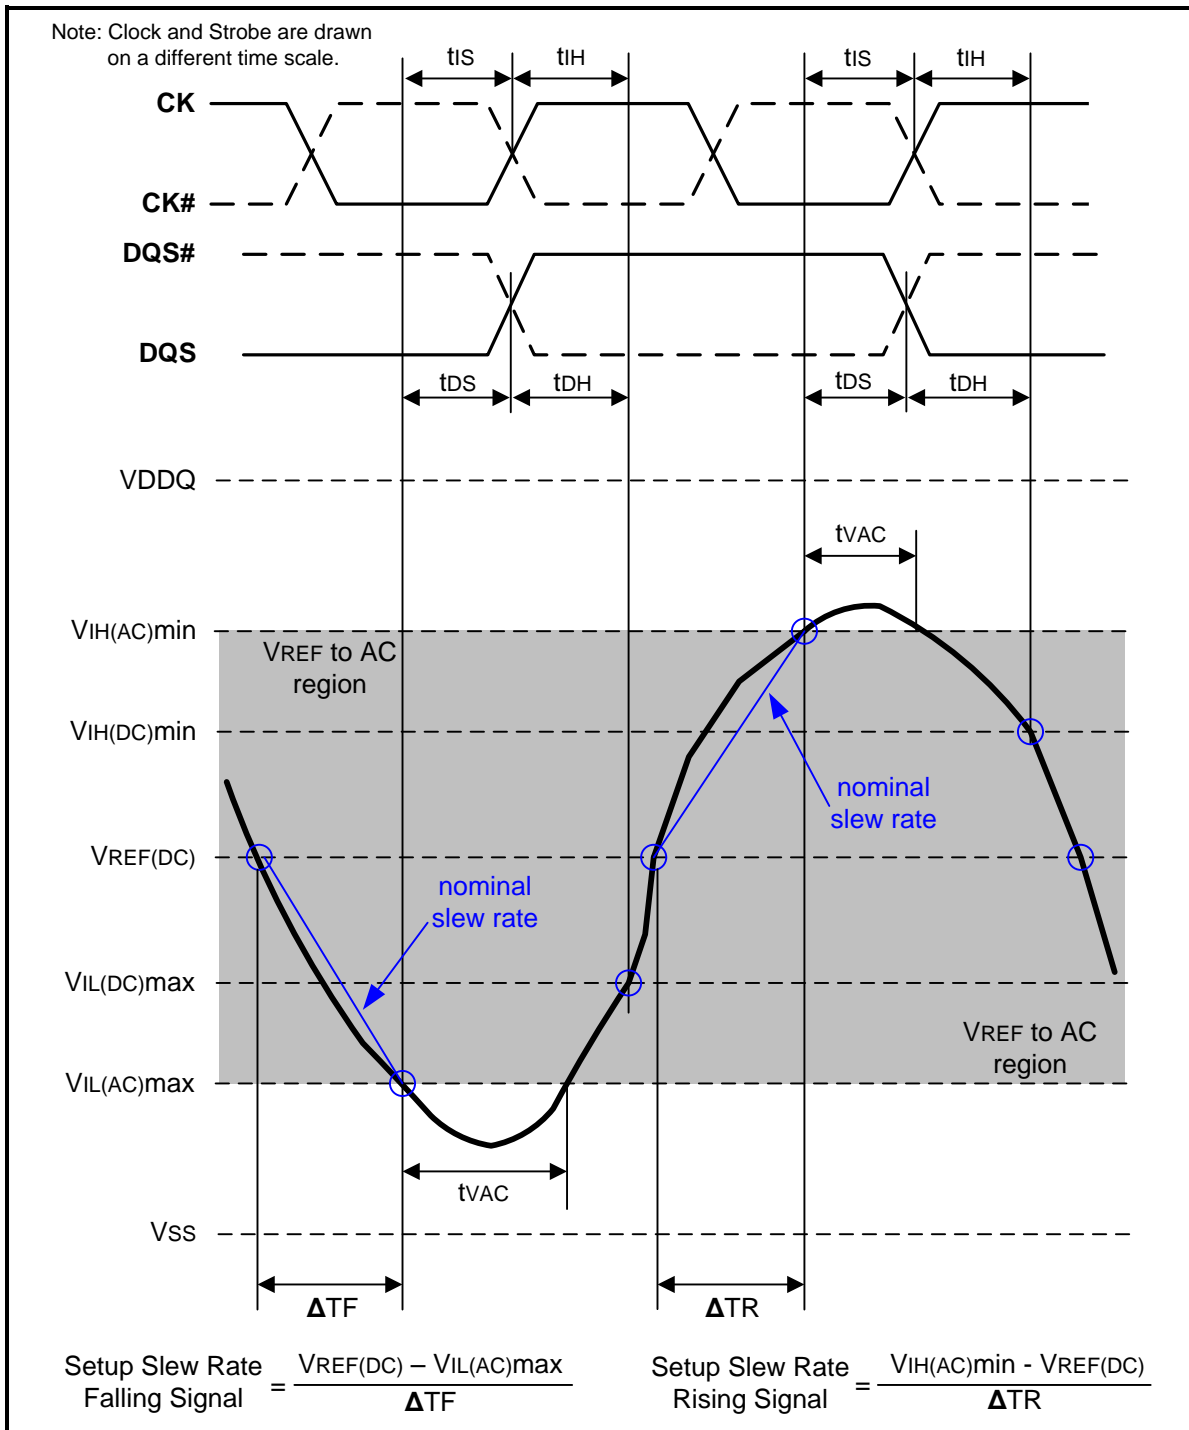
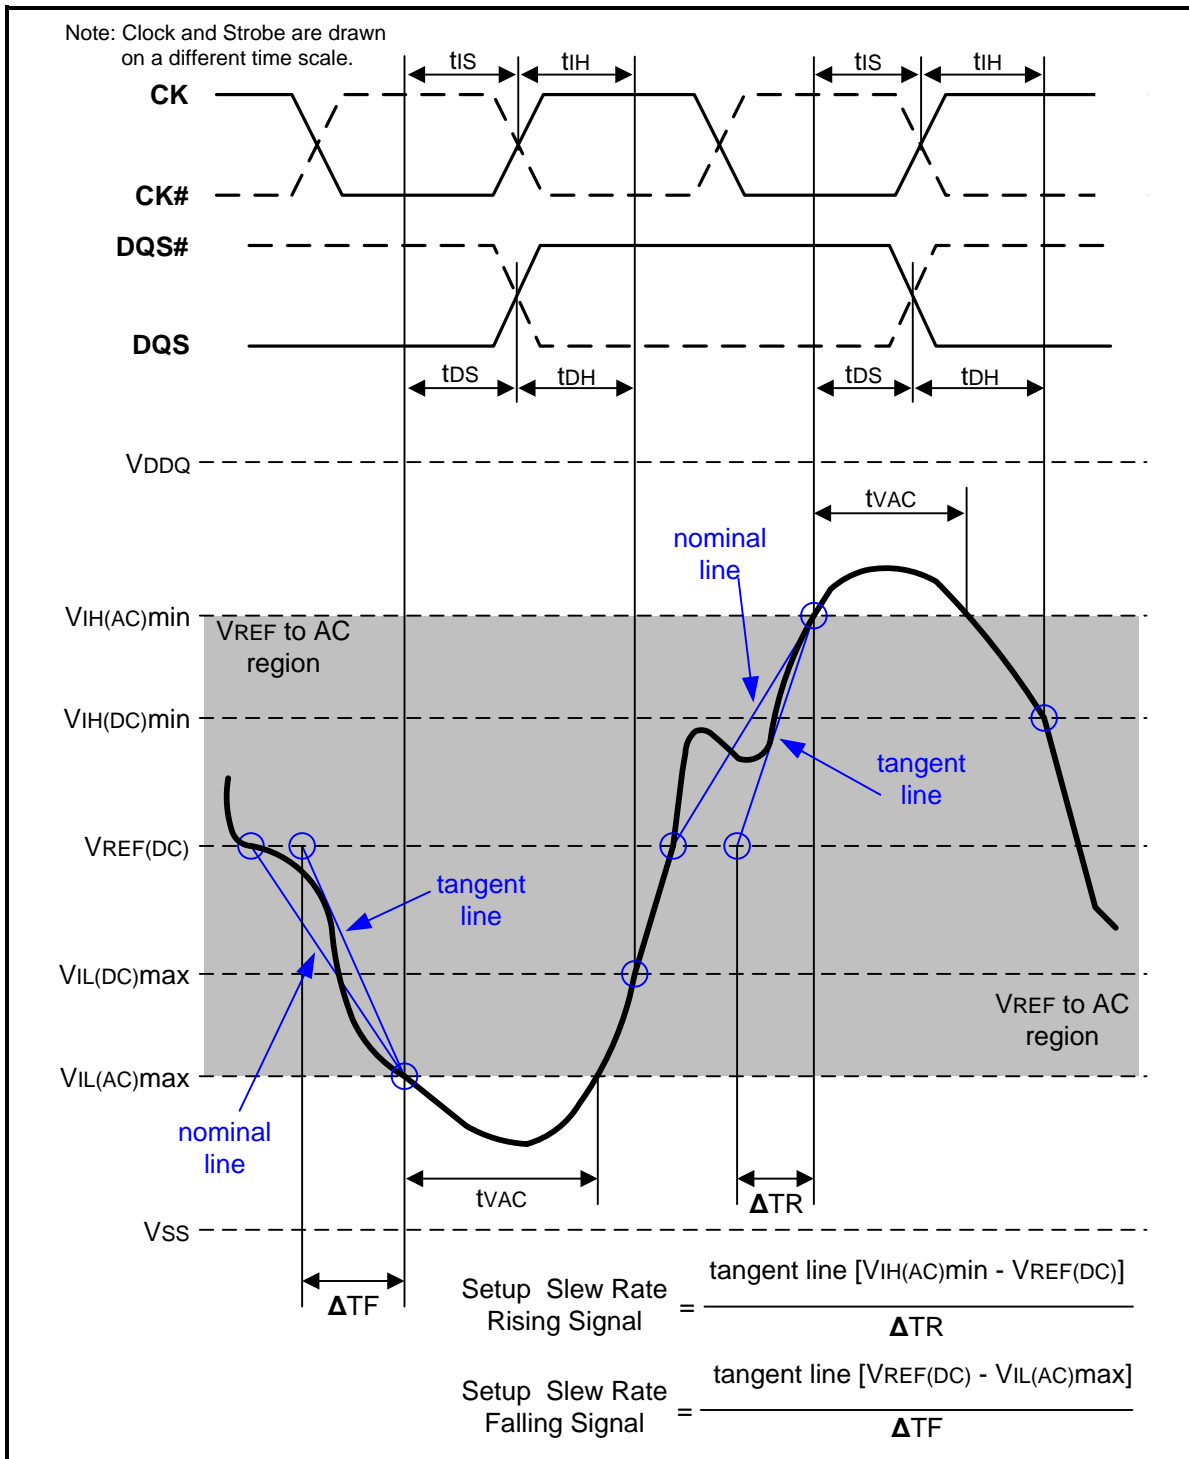

Figure 107 – Illustration of nominal slew rate and tvAC for setup time tDS (for DQ with respect to strobe) and tIS (for ADD/CMD with respect to clock)
Figure 109 – Illustration of tangent line for setup time  $t_{DS}$  (for DQ with respect to strobe) and  $t_{IS}$  (for ADD/CMD with respect to clock)
Setup ( $t_{IS}$ ) nominal slew rate for a rising signal is defined as the slew rate between the last crossing of  $V_{REF}(\text{DC})$  and the first crossing of  $V_{IH}(\text{AC})_{\text{min}}$ . Setup ( $t_{IS}$ ) nominal slew rate for a falling signal is defined as the slew rate between the last crossing of  $V_{REF}(\text{DC})$  and the first crossing of  $V_{IL}(\text{AC})_{\text{max}}$ . If the actual signal is always earlier than the nominal slew rate line between shaded 'VREF(DC) to AC region', use nominal slew rate for derating value (see Figure 107). If the actual signal is later than the nominal slew rate line anywhere between shaded 'VREF(DC) to AC region', the slew rate of a tangent line to the actual signal from the AC level to  $V_{REF}(\text{DC})$  level is used for derating value (see Figure 109).
Setup (tDS) nominal slew rate for a rising signal is defined as the slew rate between the last crossing of VREF(DC) and the first crossing of VIH(AC)min. Setup (tDS) nominal slew rate for a falling signal is defined as the slew rate between the last crossing of VREF(DC) and the first crossing of VIL(AC)max (see Figure 107). If the actual signal is always earlier than the nominal slew rate line between shaded 'VREF(DC) to AC region', use nominal slew rate for derating value. If the actual signal is later than the nominal slew rate line anywhere between shaded 'VREF(DC) to AC region', the slew rate of a tangent line to the actual signal from the AC level to VREF(DC) level is used for derating value (see Figure 109).